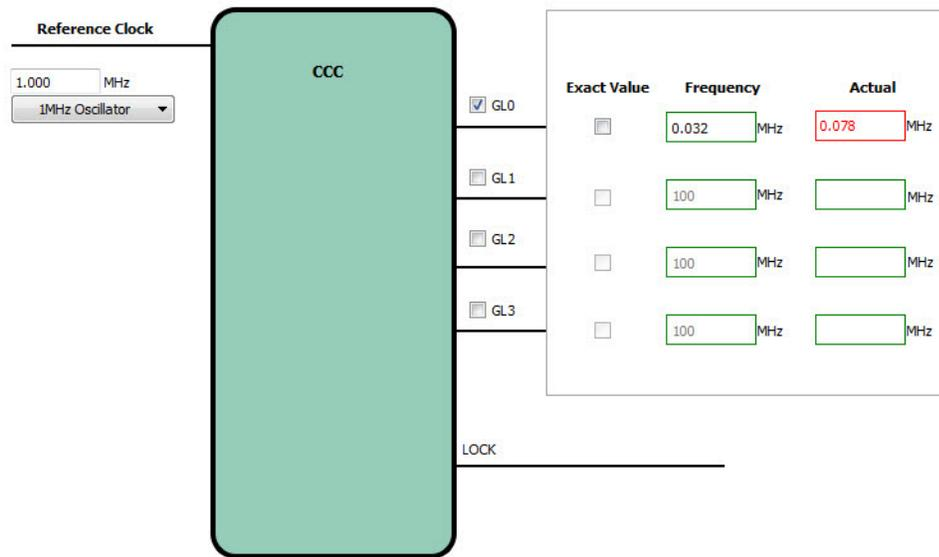

Figure 2-3 • Actual Frequency Number
- Ignore the Actual Frequency Number displayed in red (Figure 2-3).